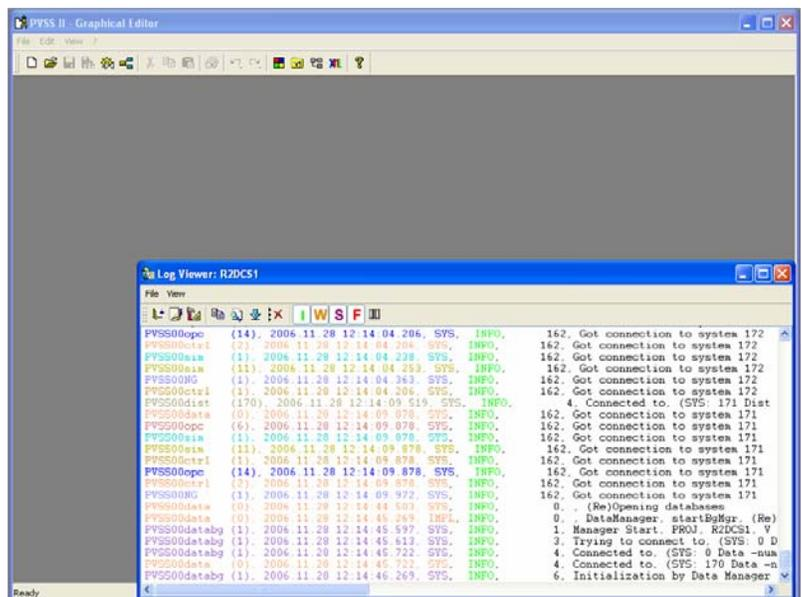

Fig 3
2. Select the “R2DCS1” and then push the “start project” button → some new windows will appear: the “console” (fig 2), the “Log Viewer”, “Graphical Editor” (fig 3) and the “RICH2 Columns Overview Window” (fig 4):